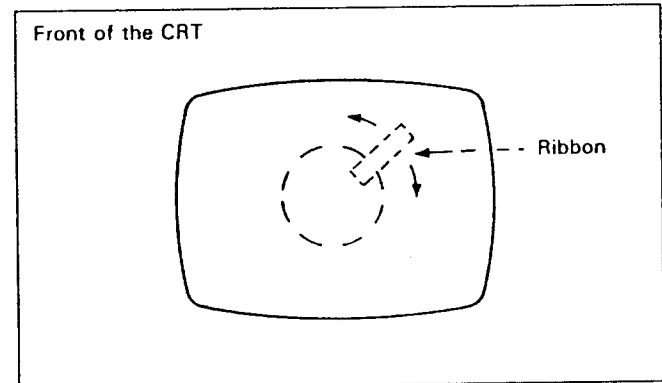

Fig. 8
1. Moving the ribbon toward the periphery, find the position where minimum aberration of the point TR is obtained. (Fig. 8)